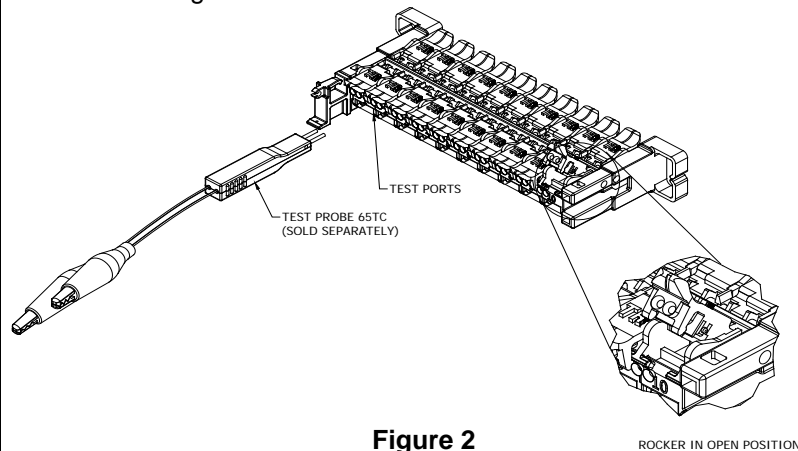

Figure 2
2. Lift the rocker to the full up position. DO NOT strip wires. Hold the wire pair to be terminated between thumb and index finger. Insert wires into wire guides simultaneously until they bottom-out. While holding wires in position, terminate rocker by lowering to the full DOWN position. Figure 2.
4. To keep wire pairs organized, route them through the molded wire looms as shown in Figure 2.